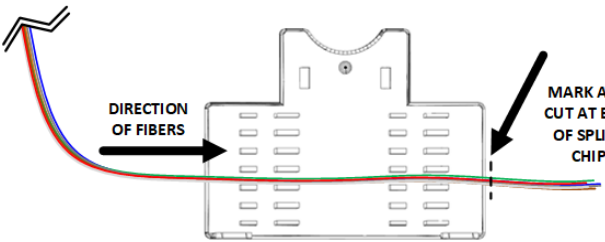
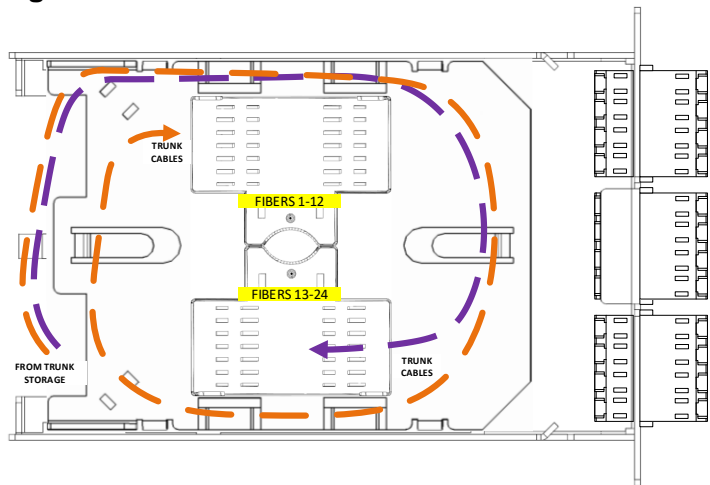

Figure 4
Figure 7
3.5 Recoil two loops of slack in the top cable storage area. Place the Splice Deck into the base. Route the pigtail fibers as shown in **Figure 3**. Route the grouping through the center of the splice chip. Mark and cut the grouping of 12 fibers at the exit point of the target splice chip as Shown in **Figure 4**. Cut the fibers at the mark, de-install the pigtail slack from the module and set aside for splicing.
3.9 Place the splice deck in its installed position and route the trunk fibers onto the splice deck. Route the trunk fibers by groups and as shown in **Figure 7**. Mark the grouping of 12 fibers at the exit point of the target splice chip as shown in **Figure 4**. Cut the fibers at the mark, de-install the trunk cable from the module and set aside for splicing.